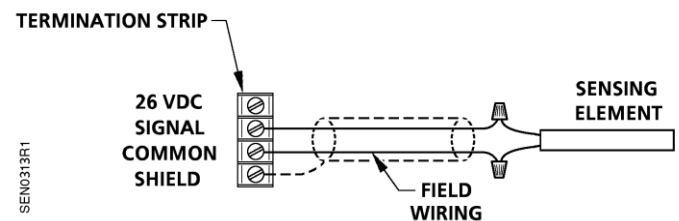

Figure 3. Typical RTD Connection.
5. Connect the field wiring at the controller as shown in the wiring diagrams. See Figure 3.
9. Connect the field wiring at the controller as shown in the wiring diagram. See Figure 3.